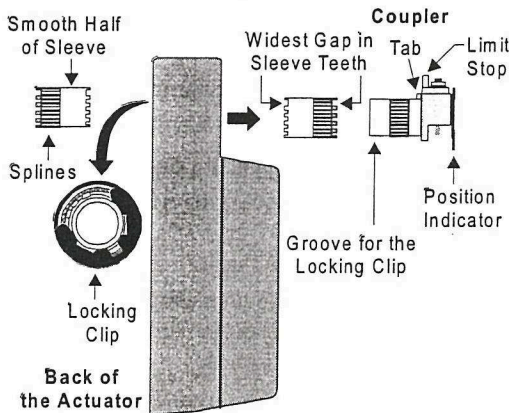

Figure 3: Changing the Spring Return Direction
To change the spring return direction to Clockwise (CW), refer to Figure 3 and proceed as follows:
To set the actuator to spring return in a CCW direction, refer to Figure 3 and proceed as follows: